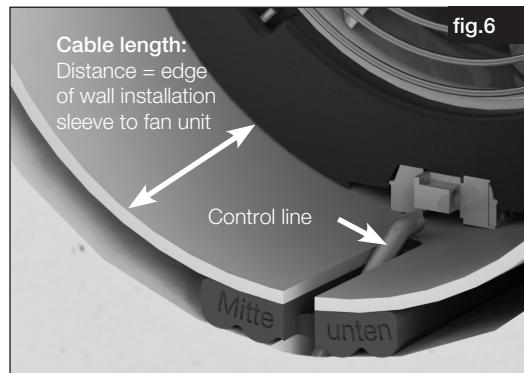
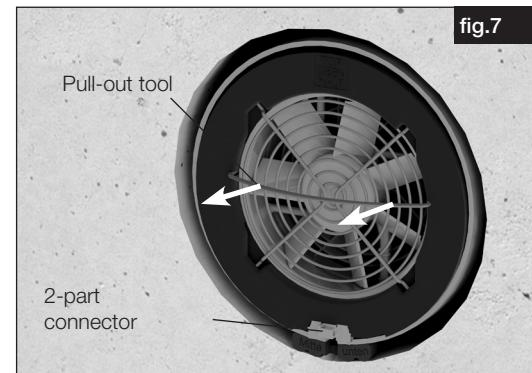

fig.6
fig.7
1. Measure and cut cable to length for connection to the fan unit (fig.6)
⑤ Distance = edge of wall installation sleeve to fan unit.
2. For the electrical connection, pull the fan unit out to the edge of the wall installation sleeve with the pull-out tool (fig.7).